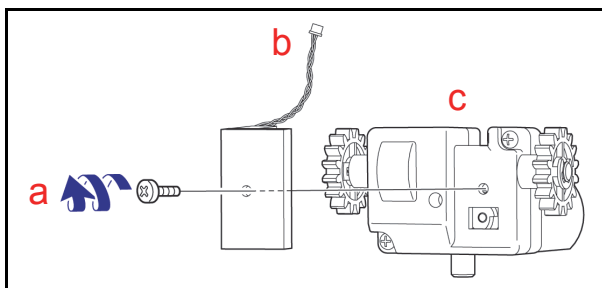

Figure 4-15 Encoder Circuit Board Removal
4. Remove the single (1) Encoder Circuit Board Mounting Screw (See Figure 4-15 a) and remove the Encoder Circuit Board (See Figure 4-15 b) from the Drive Motor Assembly (See Figure 4-15 c).